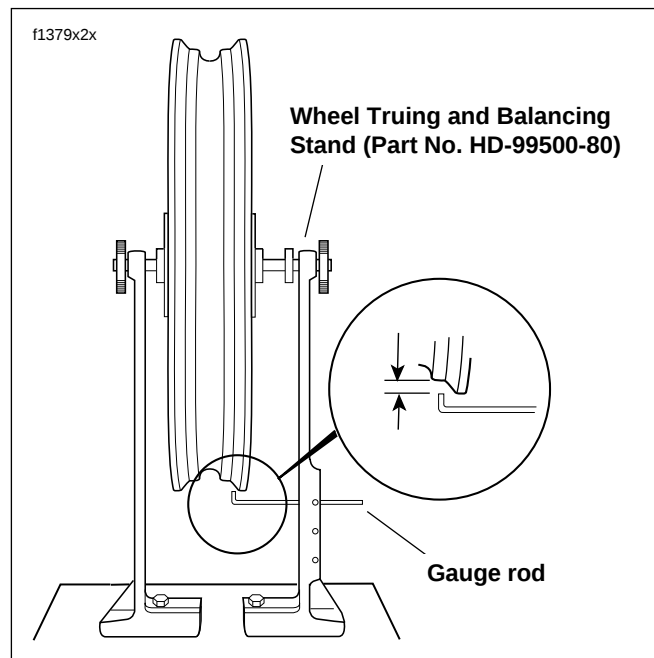

Figure 2-10. Checking Cast Rim Radial Runout
1. See Figure 2-10. Install truing arbor in wheel hub and place wheel in WHEEL TRUING AND BALANCING STAND (Part No. HD-99500-80).